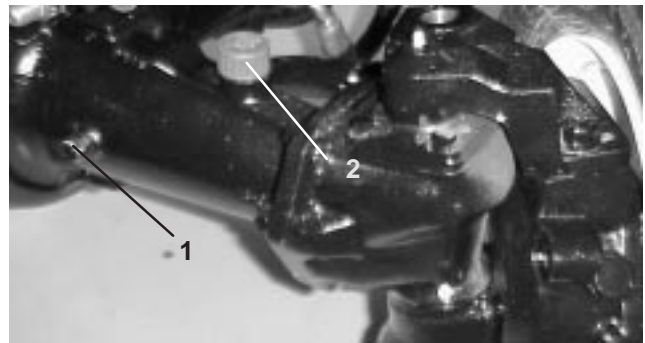

Figure 21
2. Remove a check plug (Fig. 21) from one end of axle and make sure lubricant is up to bottom of hole. If level is low, remove the fill plug (Fig. 21) and add enough lubricant to bring the level up to the bottom of the check plug holes.